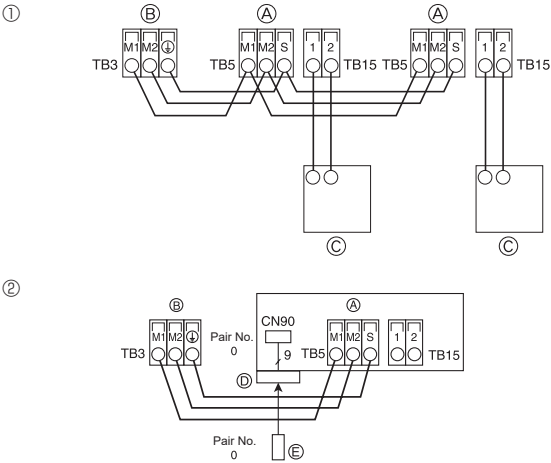

Fig. 4-8
4.5. Connecting remote controller, indoor and outdoor transmission cables (Fig. 4-8)
- ① MA Remote controller
- ② Wireless remote controller (When installing wireless signal receiver)